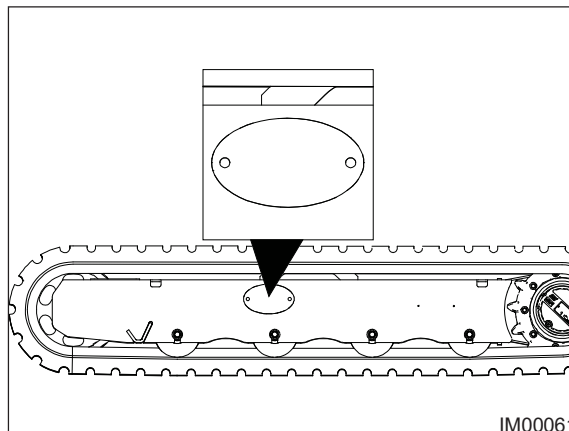

Fig: 11.4 - Access Cover
3. Loosen one of the two screws and swing access cover away from access aperture on the side of the track frame (Fig: 11.4).